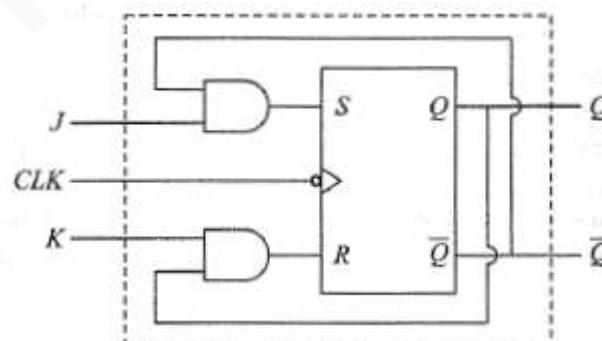

Figure 8.43:Conversion of SR flip-flop to JK flip-flop.
- The final synthesized circuit developed from these equations, are shown in Fig. 8.43.